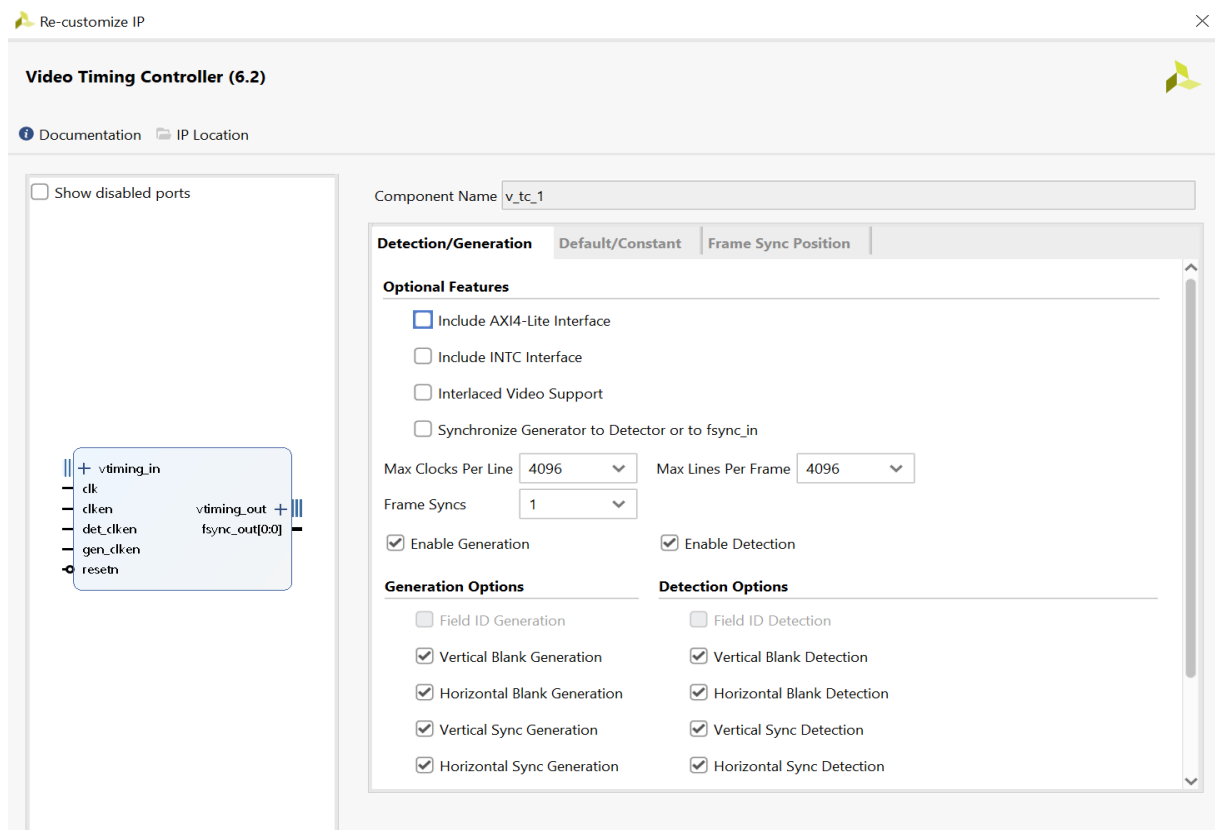

Figure 9. Configuration for the “Video Timing controller”
2. Include a second Video Timing Controller into your design, to detect the input control video signals and to generate the output controls. Double click on the IP, to access to configuration window depicted in figure 9. Deselect the AXI4-Lite. In generation option, check auto generation mode is active. In the default/constant menu select a 480p video format (640x480 pixel spatial resolution for the images).